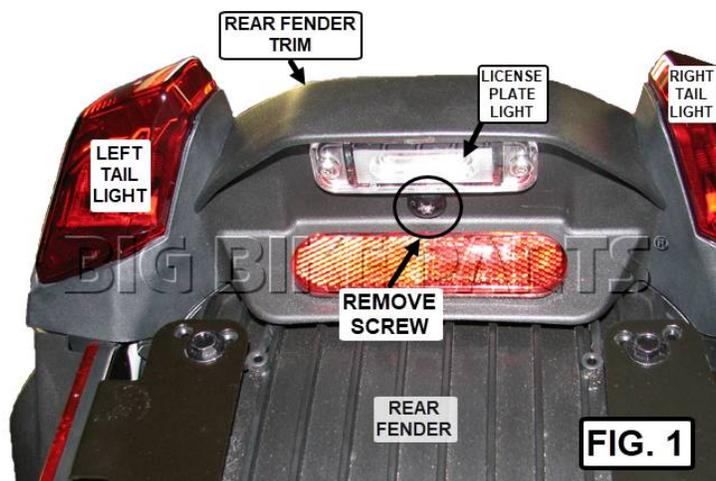

FIG. 3
6. PLACE MASKING TAPE ON THE REAR FENDER TRIM AND MARK THE LIGHT CENTER ACCORDING TO **FIG. 3**.